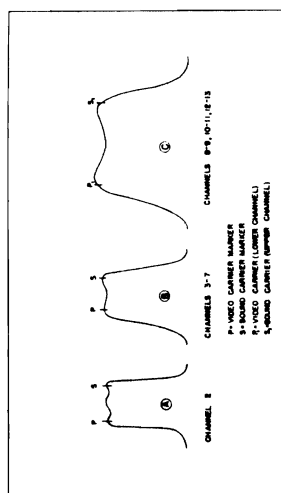

Fig. 14. R-F Alignment Curves
For Channels #2 and #3, the r-f coils should be aligned to give approximately the curve shown in Figure 14(A) and 14(B). The "p" marker represents the video carrier marker, while the "S" marker is the sound marker. The frequency of these markers is indicated for each step of the alignment procedure. Adjustment of the bandwidth is made by moving the plate coil closer to the grid coil or vice-versa. On Channel #2, the sliding of the copper rings will give both the required bandwidth and the frequency adjustment. Spread or squeeze turns in plate and grid coils to change frequency. Spreading turns results in a raising of the frequency; while squeezing turns lowers the frequency.
The minimum requirements for correct r-f alignment are (1) to provide the correct bandwidth, (2) for the response curve to be centered within the limit frequencies shown for each of the individual channels as in Figure 14, and (3) for the response curve to be adjusted for maximum amplitude consistent with correct bandwidth. To provide these minimum requirements, the r-f coils are overcoupled and loaded with resistance. Tuning of the coils is affected by changing inductance of the individual coils. Except for the Channels #2 and #3 wafers, the coupling is fixed by the design of the coil and switch wafers.